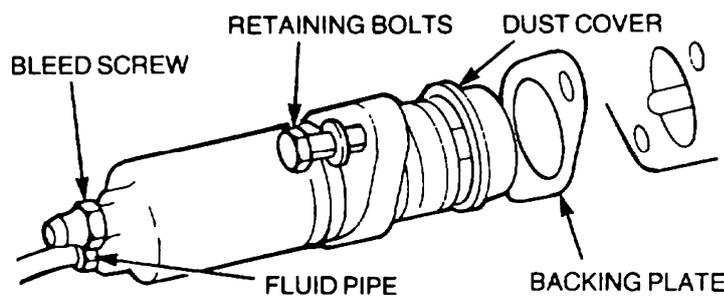

Figure 55 Clutch Slave Cylinder Removal
- g. Remove the dustcover (Figure 55).